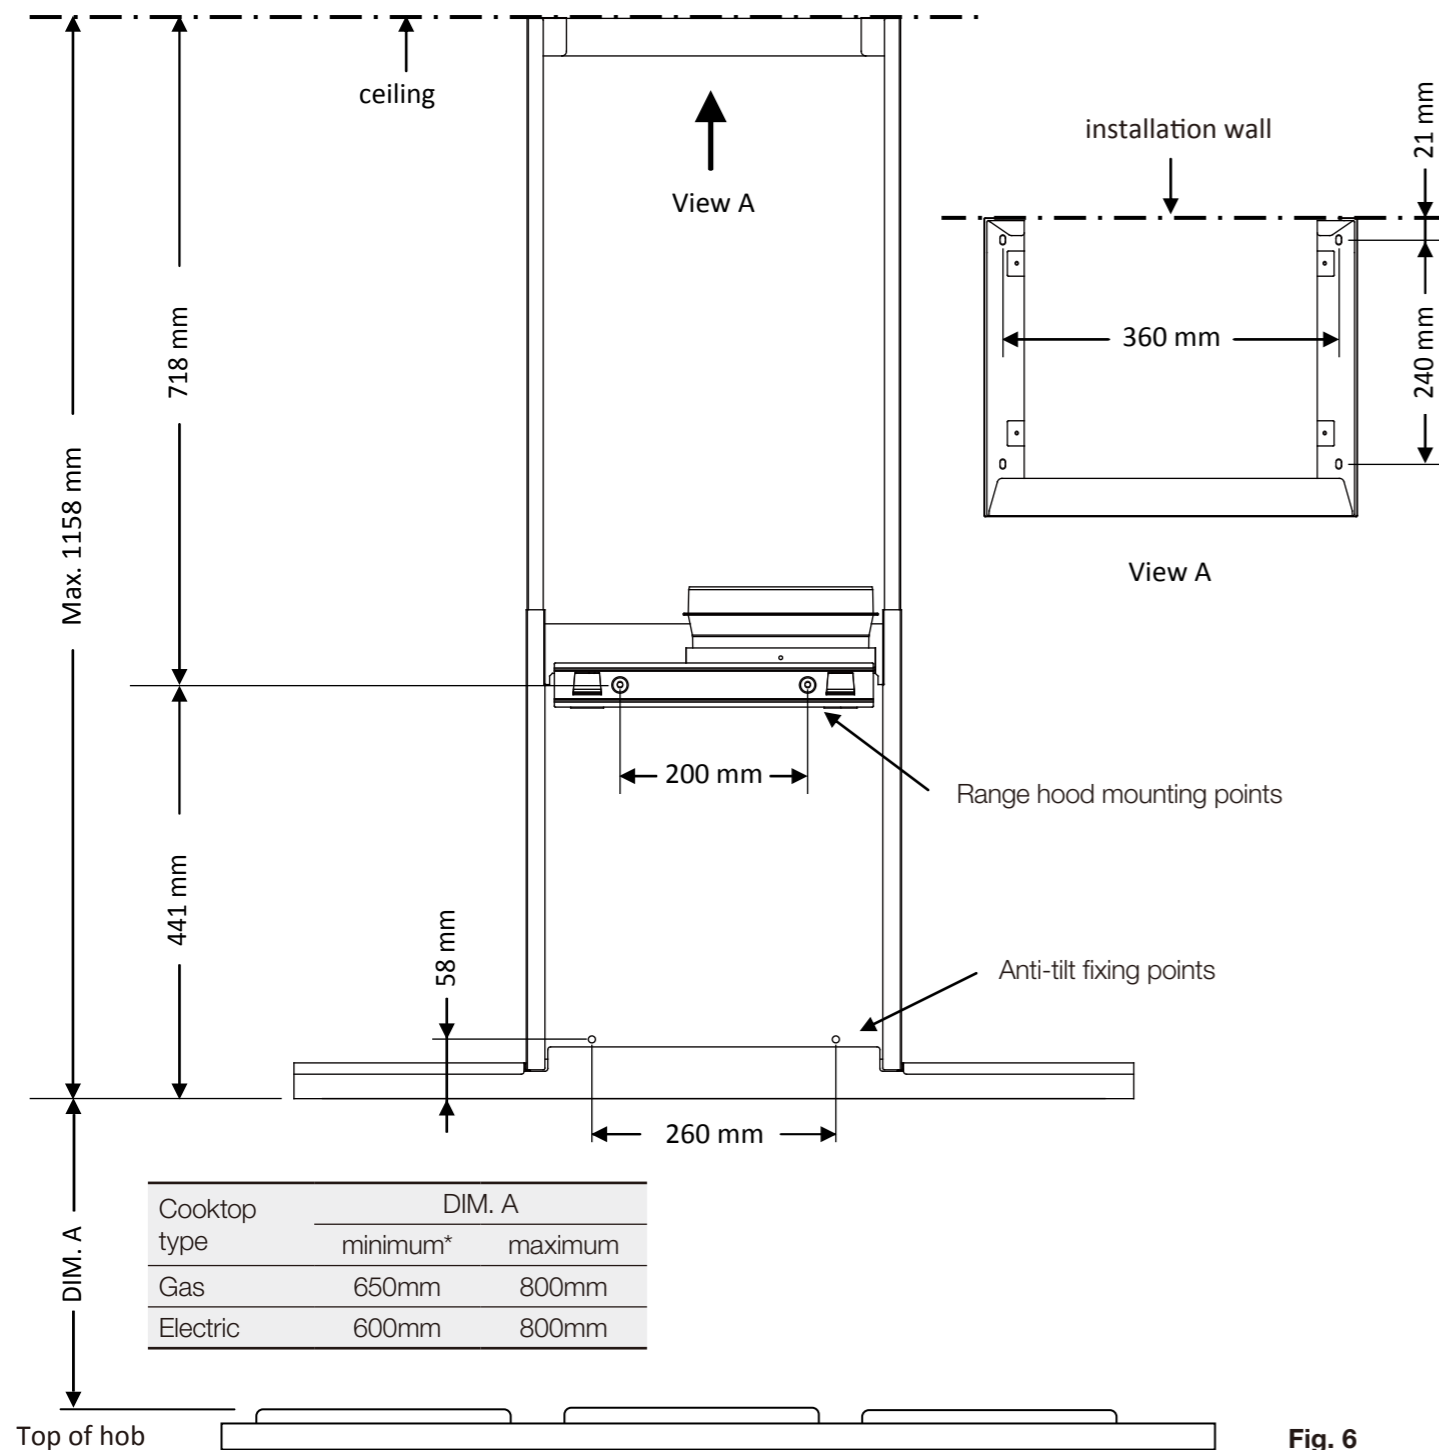

Fig. 6
- Mark the location for flue cover wall mounting brackets and cooker hood mounting points and anti-tilt fixing points above the hood base using the hood base as the reference point (Fig. 6).
- Install flue cover wall mounting brackets with suitable fixings. Install suitable screws for cooker hood mounting points (to support a total weight of 30kg) to the wall as marked (Fig. 6).